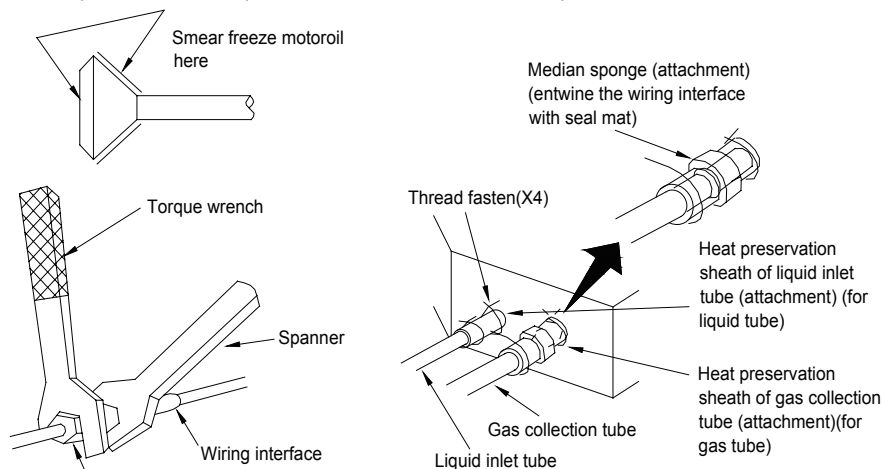

Fig. 5
- ◆ When connecting the pipe to the unit use a wrench and torque wrench as shown in Fig. 5.
- ◆ Examine the connection pipe for leaks. Apply heat insulation, as shown in the Fig. 5.